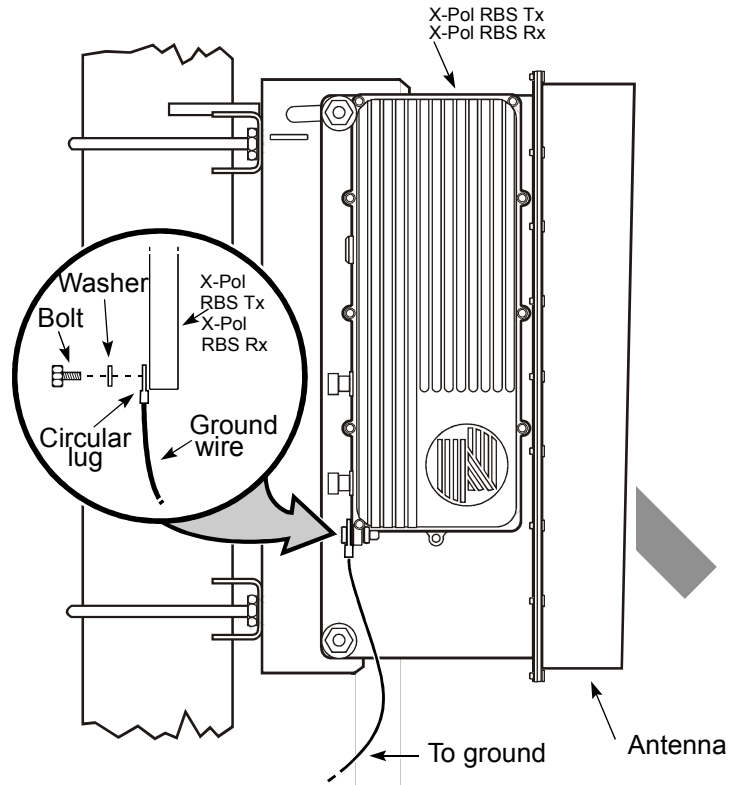

Figure 15 – X-Pol RBS Tx/X-Pol RBS Rx ground connection location
4. Connect the ring lug to the X-Pol RBS Tx or X-Pol RBS Rx case ground connection point using the ground bolt, as shown in Figure 15. Tighten the bolt to 13.5 Nm (10 ft-lb) of torque.